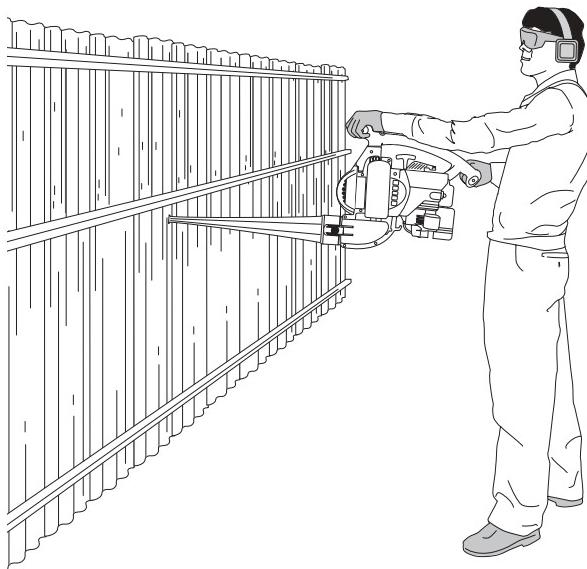

Fig. 15
- 3 Use the blower around walls, overhangs, fences and screens (Fig. 15).